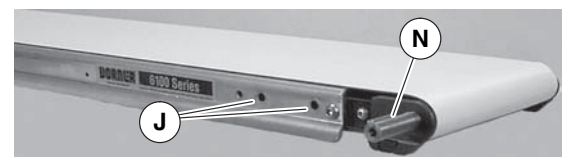

Figure 14
- Locate drive output shaft. Remove two screws (Figure 14, item J). Install key (N).